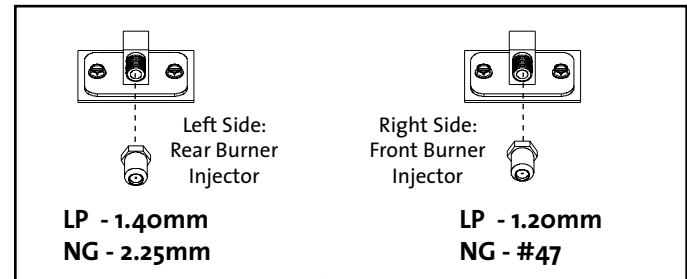

Figure 30.
8. **Change the Burner Injectors.** See fig. 30. Using a 1/2" open end wrench or deep-well socket remove both burner injectors from the brass elbow housings and replace with the appropriate injectors supplied in the kit. **Injectors are labelled: "L" = Left / "R" = Right.**